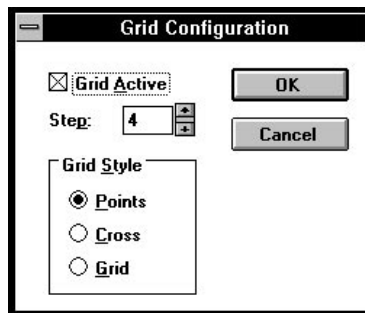

Figure 5-23. Grid Configuration Window.
ACTIVE-CAD has three (3) font sizes: small, medium and large. You can assign any of these fonts to pins, symbol names and reference numbers. The height of the small, medium and large fonts (expressed in pixels) for the entire schematic is set in the **Define Font Sizes** window (Figure 5-23) invoked with the **Define Font Sizes** button in the **Text Preferences** option.
The **Grid Configuration** (Figure 5-23) window allows you to turn the grid on and off, and set the spacing and style. To activate or de-activate the grid, use the **Grid Active** check box. The snapping of the drawn elements to the grid will take place independent of whether the grid has been selected for display.